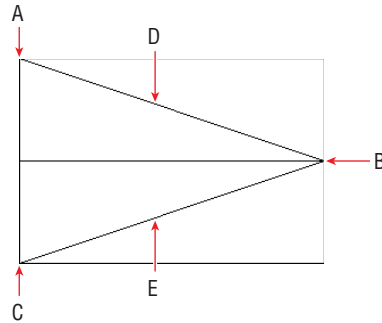
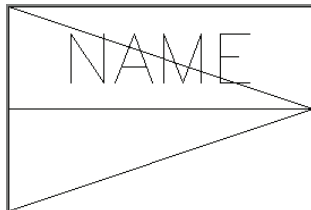
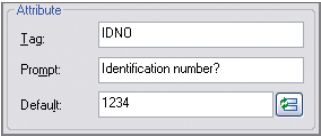

FIGURE 15.7 Drawing simple geometry to form the basis of an attributed block
FIGURE 15.9 Placing an attribute definition in relation to the block definition geometry
FIGURE 15.10 Creating another attribute definition
5. Click the Line tool in the Draw panel, and click points A, B, and C in Figure 15.7. Press Enter to end the LINE command.
9. Click OK to close the Attribute Definition dialog box. Click the midpoint at point D in Figure 15.7. Figure 15.9 shows the result.
10. Press the spacebar to repeat the ATTDEF command. Type **IDNO** as the tag, **Identification number?** as the prompt, and **1234** as the default (see Figure 15.10). Set Justification to Middle Center and click OK. Click the midpoint of the lower diagonal line at point E in Figure 15.7.
13. Click the Pick Insertion Base Point icon, and then click point C in Figure 15.7.